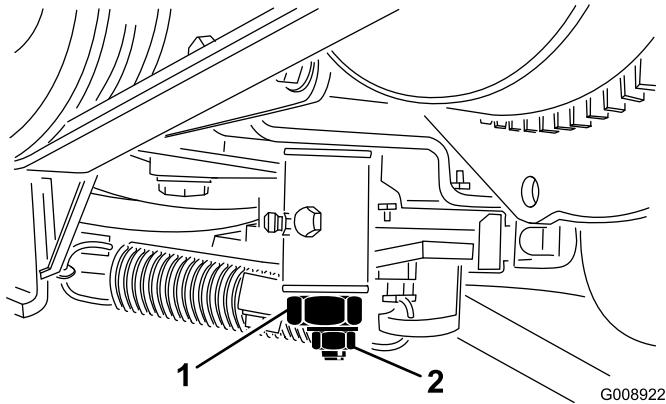

Figure 62
3. Loosen locknut on traction adjustment cam (Figure 62).